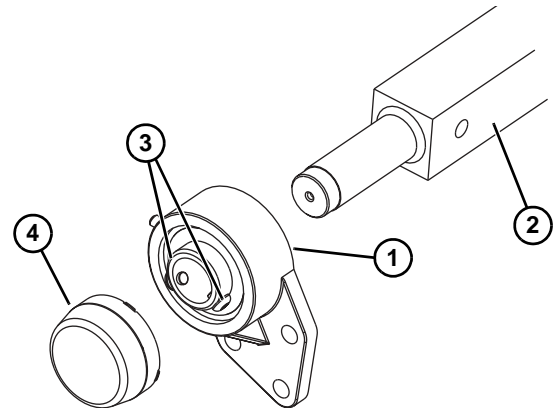

Figure 69
5. Slide the bearing flange assembly (**Figure 69, item 1**), onto the spindle shaft end (**Figure 69, item 2**).
6. Use a hex wrench to tighten the bearing shaft assembly fasteners (**Figure 69, item 3**).
7. Install the bearing cover (**Figure 69, item 4**).